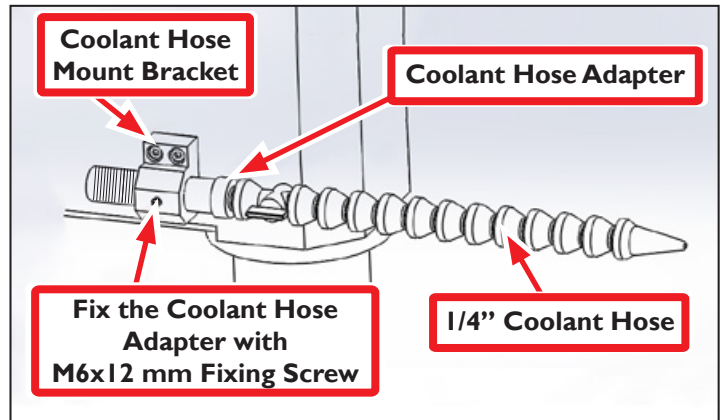

Figure 12
5. Connect 1/4" Coolant Hose to Coolant Hose Adapter; insert into Coolant Hose Mount Bracket (see Figure 12).
8. Using one M6 x 12 mm Fixing Screw, attach Coolant Hose Mount Bracket to Coolant Hose Adapter (see Figure 12).